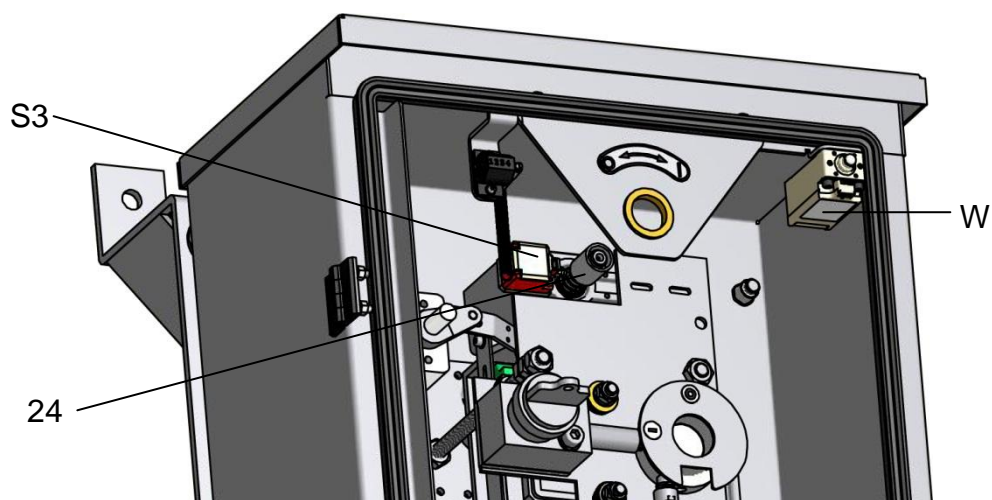

Fig. 2: without cover and door
#### **S3 emergency hand crank switch** (Fig. 2, 3, 4 and 8)
#### **S2A and S2E pilot switch motor drive** (Fig. 2 and 8)
#### **Emergency hand crank pressing-off fixture** (Fig. 2, 3, and 8)
After 10.000 switching cycles or 10 years	<p>Activities as described under annual.</p> <p>Lubricate the following components of the motor drive with the lubricant Isoflex NBU1 (see 7.1) so that the interacting components are sufficiently lubricated:</p> <ul style="list-style-type: none"> <li>• Guide rollers (15) on both sides, driver pin (21) inclusive guide rails (16) on both sides and connecting fork (17)</li> <li>• Ball and screw spindle drive (18) and both rolling-contact bearing (19)</li> <li>• Bevel gearing (20) and shifting sleeve (10) at the emergency manual drive (it is necessary to remove the covering (25))</li> <li>• All moveable parts</li> </ul> <p>Function control of the pilot switches (S2A a. S2E, see fig. 1,2 and 8), protective motor switch (R), emergency switch (S3, see fig. 2), heating (K) and thermostat (T). Carry out a functional check (see 4.2.4).</p> <p>Attention: For the friction clutch (22) to work properly, it must not come into contact with lubricant.</p>